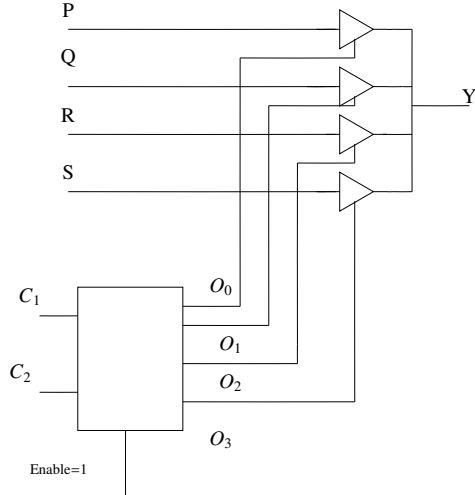

Fig. 3.17: Multiplexer
34. The functionality implemented by the circuit below in Fig. 3.17 is